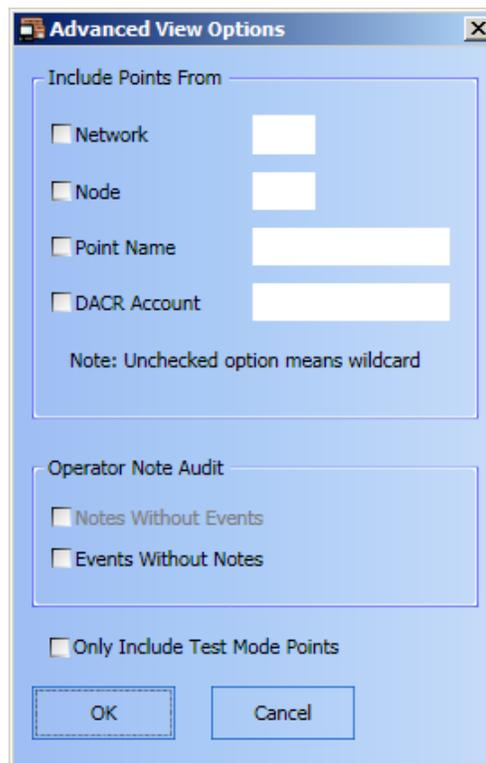

Figure 9-6 Advanced View Options Dialog Box
- Click on **Advanced**. The **Advanced View Options** dialog box appears as shown in Figure 9-6. From this dialog box, you can include points by selecting the checkboxes and providing a string for the following parameters (click on **OK** to confirm entries):